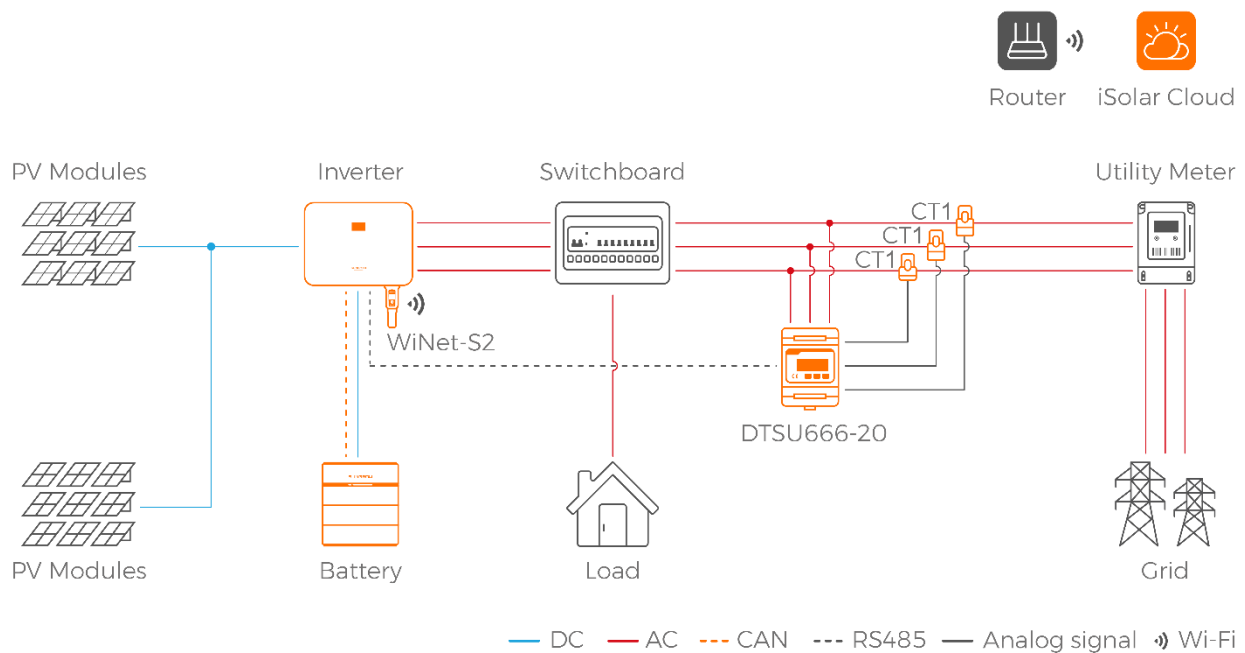

Figure 1 Self-Consumption System
- 1) To ensure the correct energy flow and zero-export function, DTSU666 with built-in CT should be installed in the position between the Utility meter and the Switchboard. If DTSU666-20 and external CTs are used, place CT1 between the Utility meter and the Switchboard, as shown in the system diagram (**Figure 1**).